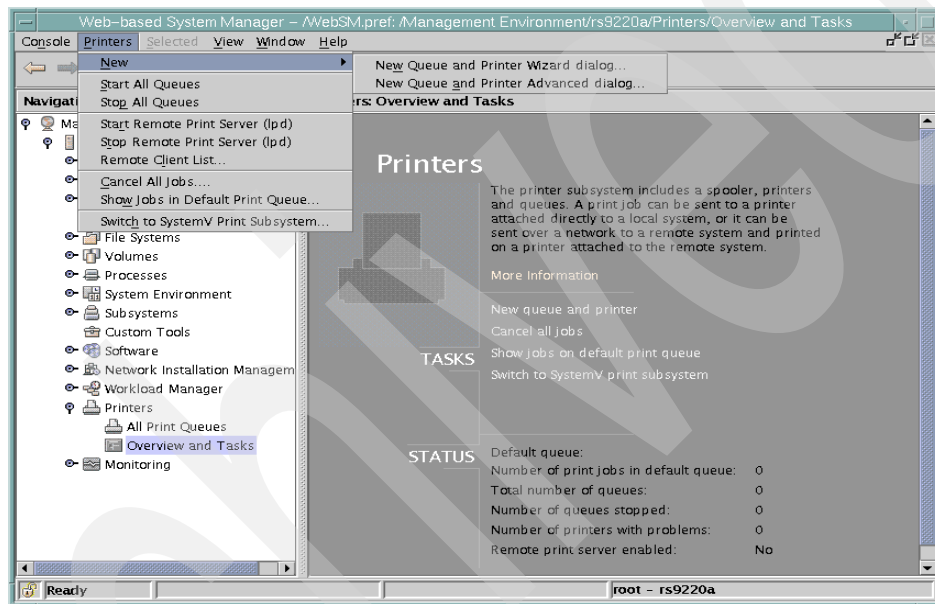

Figure 60. Overview and tasks panel for printers
1. Start the Web-based System Manager either from the CDE **Application Manager -> System\_Admin -> Management Console**, or from the command line using `wsn`. From the main **Management Environment** panel, open the **Printers** container, then the **Overview and Tasks** object. A panel similar to Figure 60 should appear.